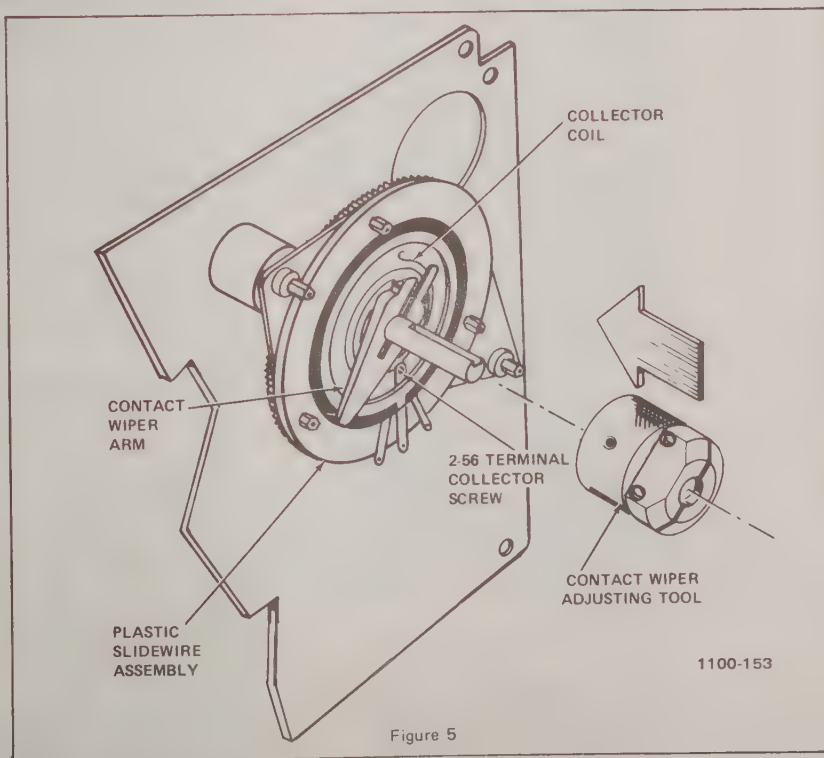

Figure 5
6. At this point, take wiper contact (pressure) adjusting tool, see Figure 5, 30679100-001 and turn knurled knob tight against locking end of tool. Then back it off one full turn.
7. Push adjusting tool on servo shaft; close to, but not on wiper arm. See Figure 5. Tighten the two clamp screws.